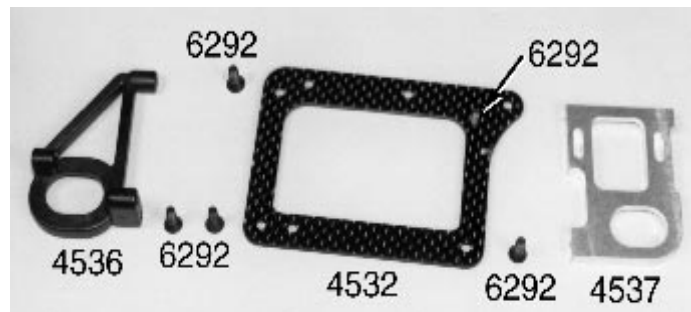

Fig. 34
**Figs. 34 & 35** Open bag #4 and remove the #4532 graphite lower pod plate, #4536 molded left side rear bulkhead, and three #6292 4-40 x 3/8" FHSScrews. Line the left rear bulkhead up with the three mounting holes in the lower pod plate as shown. Use the three #6292 screws to fasten the bulkhead to the lower pod plate.